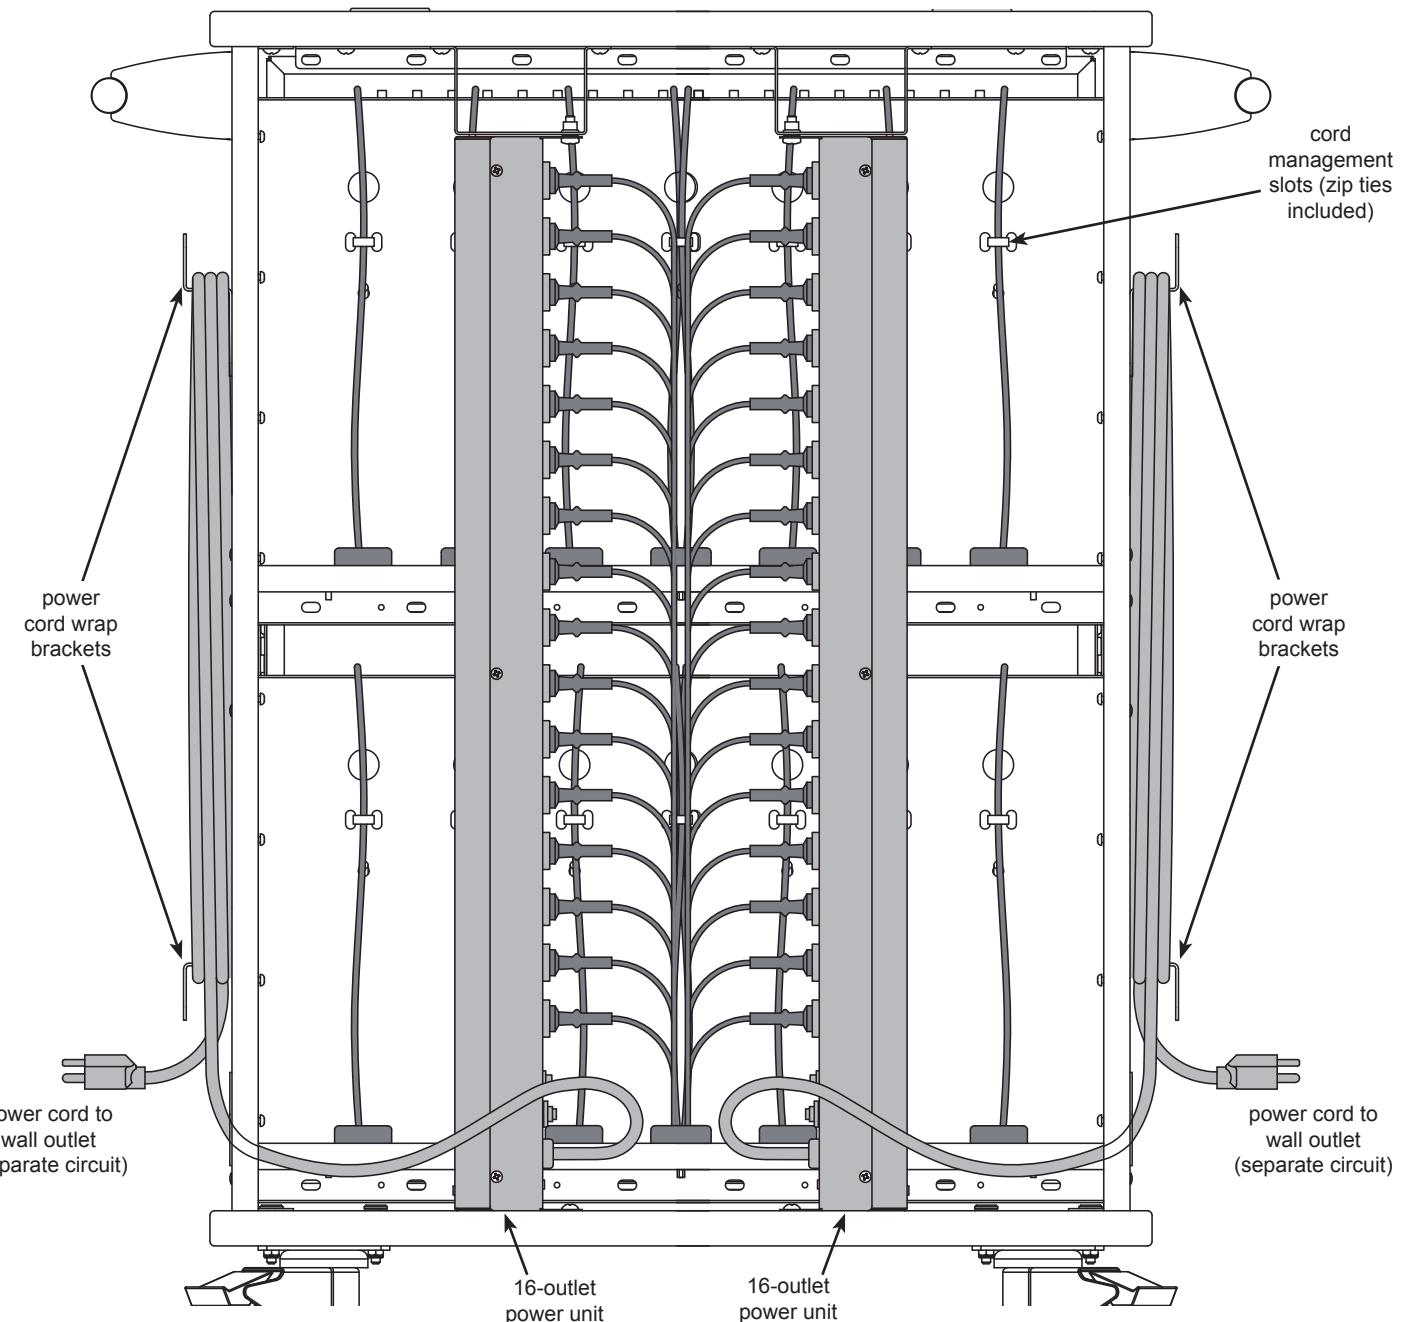

Figure 7
1. Plug each power unit into a wall outlet. A separate circuit may be necessary for each power unit. **Figure 7**.